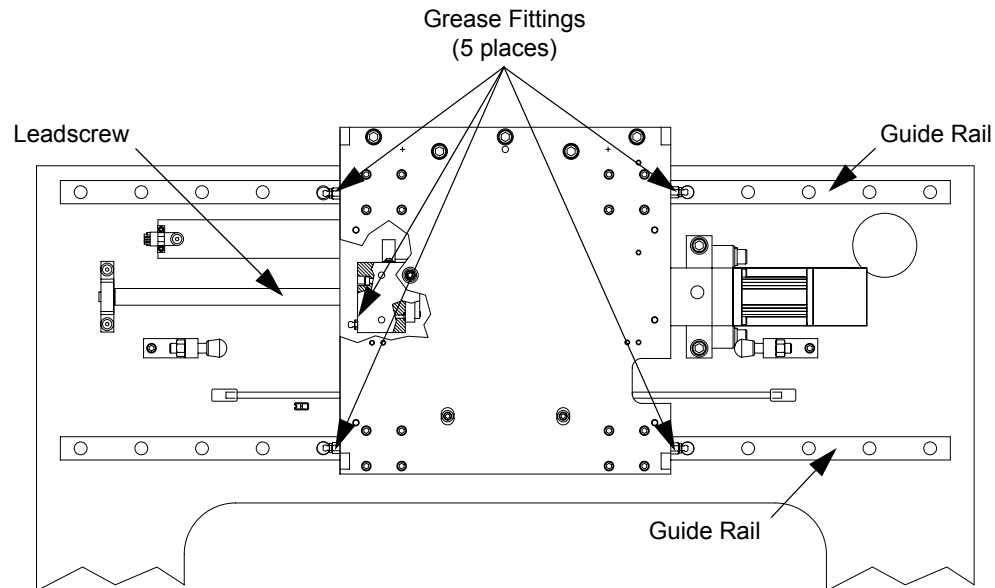

Figure 6-5 X-Axis Guide Rails
Refer to Figure 6-5 as you proceed through this section:
10. Apply new lubricant to the guide rails and leadscrew via the grease fittings; see Figure 6-5.